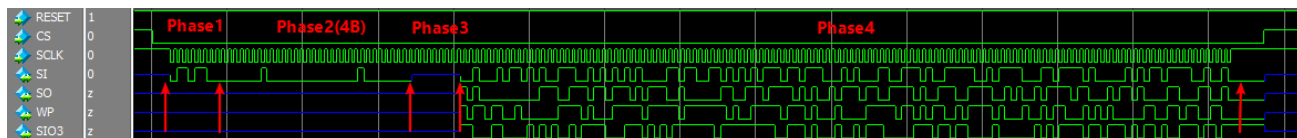

Figure 5.6. Example for QREAD4B Sequence
- SPI Flash QREAD4B example (Figure 5.6):